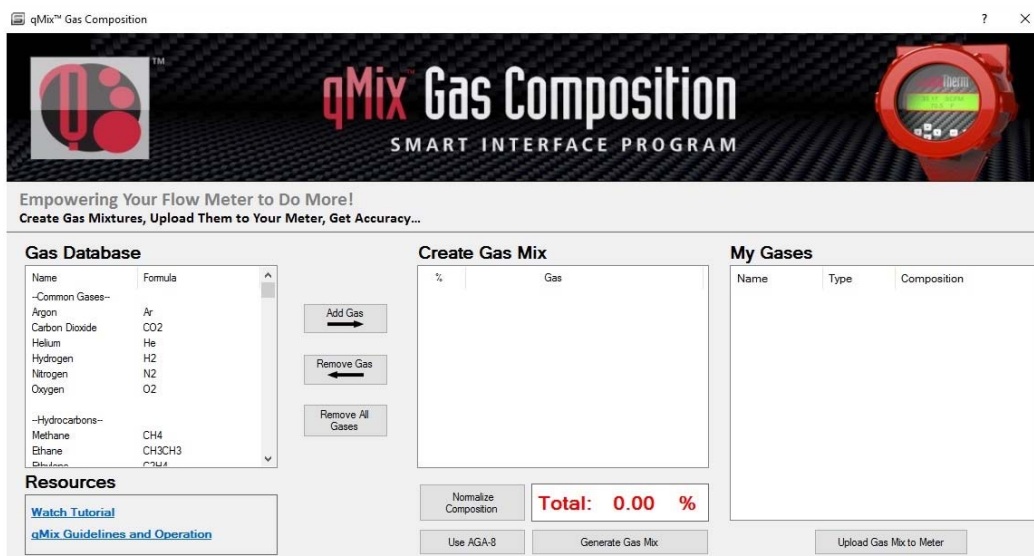

Figure 1. "qMix Gas Composition" User Interface
4. Click the “qMix Gas Composition” button or select “qMix Gas Composition” from the function selector drop down on the main menu (See Figure 1).